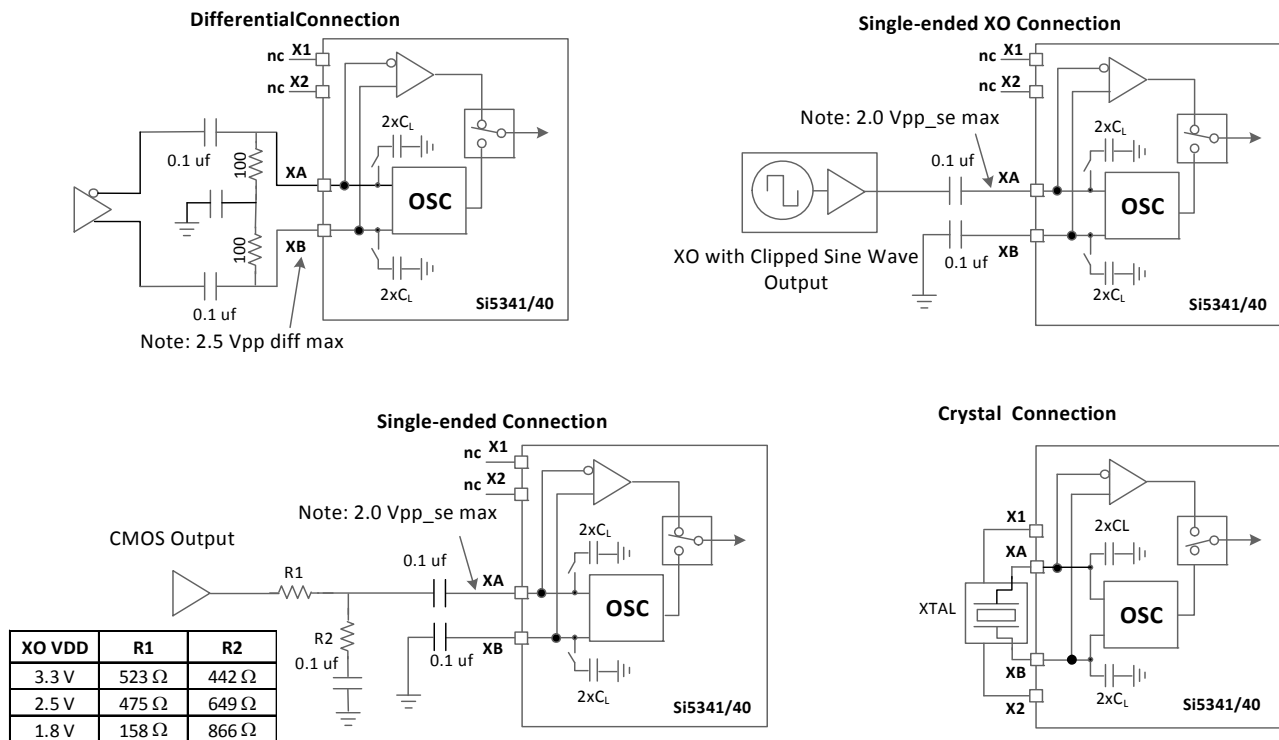

Figure 11. XAXB External Crystal and Clock Connections
The Si5341/40 can also accommodate an external input clock instead of a crystal. This allows the use of crystal oscillator (XO) instead of a XTAL. Selection between the external XTAL or input clock is controlled by register configuration. The internal crystal load capacitors (C_L) are disabled in the input clock mode. Refer to Table 3 for the input clock requirements at XAXB. Both a single-ended or a differential input clock can be connected to the XA/XB pins as shown in Figure 11. A P_{XAXB} divider is available to accommodate external clock frequencies higher than 54 MHz.